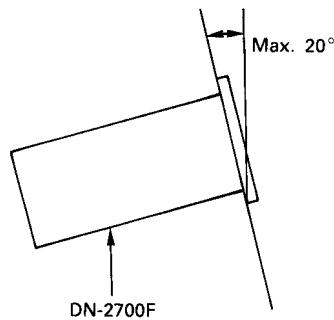

Figure 6
- The DN-2700F will work normally when the main unit is mounted with the front panel within 20 degrees of the vertical plane. If the unit is tilted excessively, discs may not load or unload properly. (Figure 6)